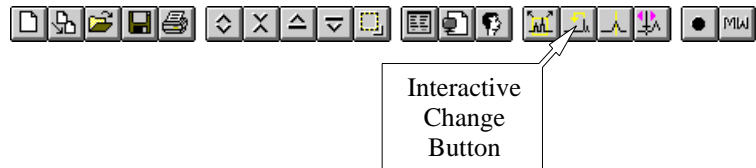

Figure 8-10 The Interactive Change of Center Field Parameter button in the Tool Bar.
12. **Set the center field.** To interactively set the center field, click the Interactive Change of Center Field Parameter button in the tool bar. (See Figure 8-10.)